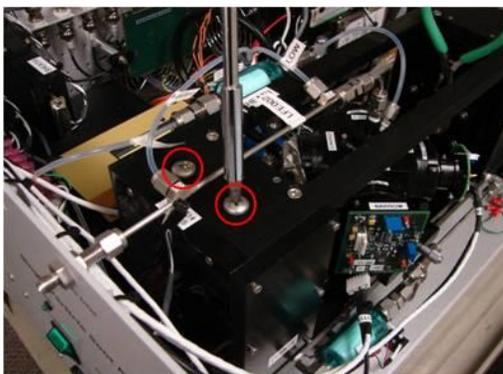

Figure 8: Coupler Chamber Sealing Screws
- 3.14. Remove the two Phillips head (cross-recess) sealing screws in the top of the coupler chamber. See Figure 8.